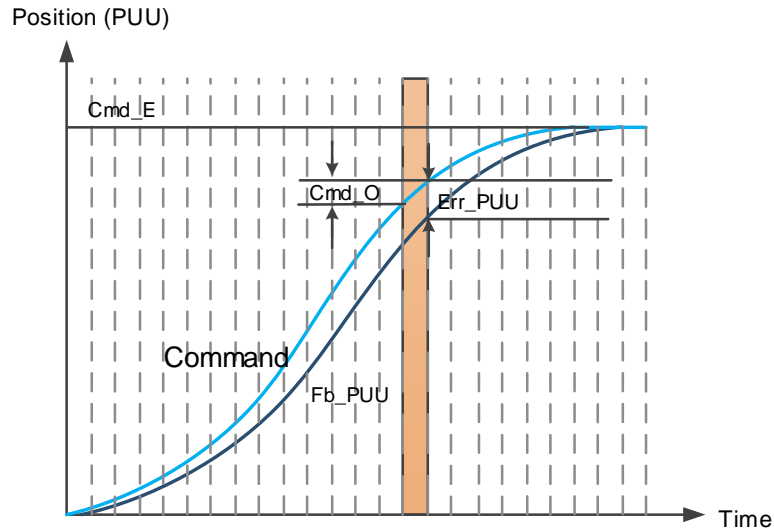

Figure 7.1.2.2 Monitoring variables status when a command is executed in PR mode
You can use the digital input (DI) to call and the digital output (DO) to monitor PR paths (refer to Table 8.1 and 8.2 for DI/O function descriptions). When you trigger the motion command with DI.CTRG [0x08], the servo operates based on the command from the internal registers. Once the execution is complete, DO.Cmd_OK [0x15] (PR Position command complete) is set to on. When the position deviation (pulse number) becomes smaller than the value of P1.054, DO.TPOS [0x05] (Motor reaches the target position) is set to on. Then, both DO signals are on and the servo outputs the MC_OK [0x17] signal to signify that it has completed this PR path. The operation is as shown in Figure 7.1.2.3. If you have set a delay time in this PR and the position deviation (pulse number) is smaller than the value of P1.054, DO.TPOS [0x05] is set to on.